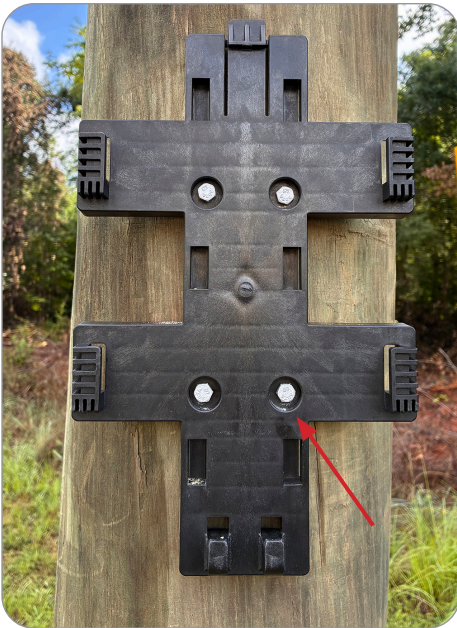

Figure 41
2. Install Mounting Bracket to the pole or wall using standard mounting screws. (Figure 41)